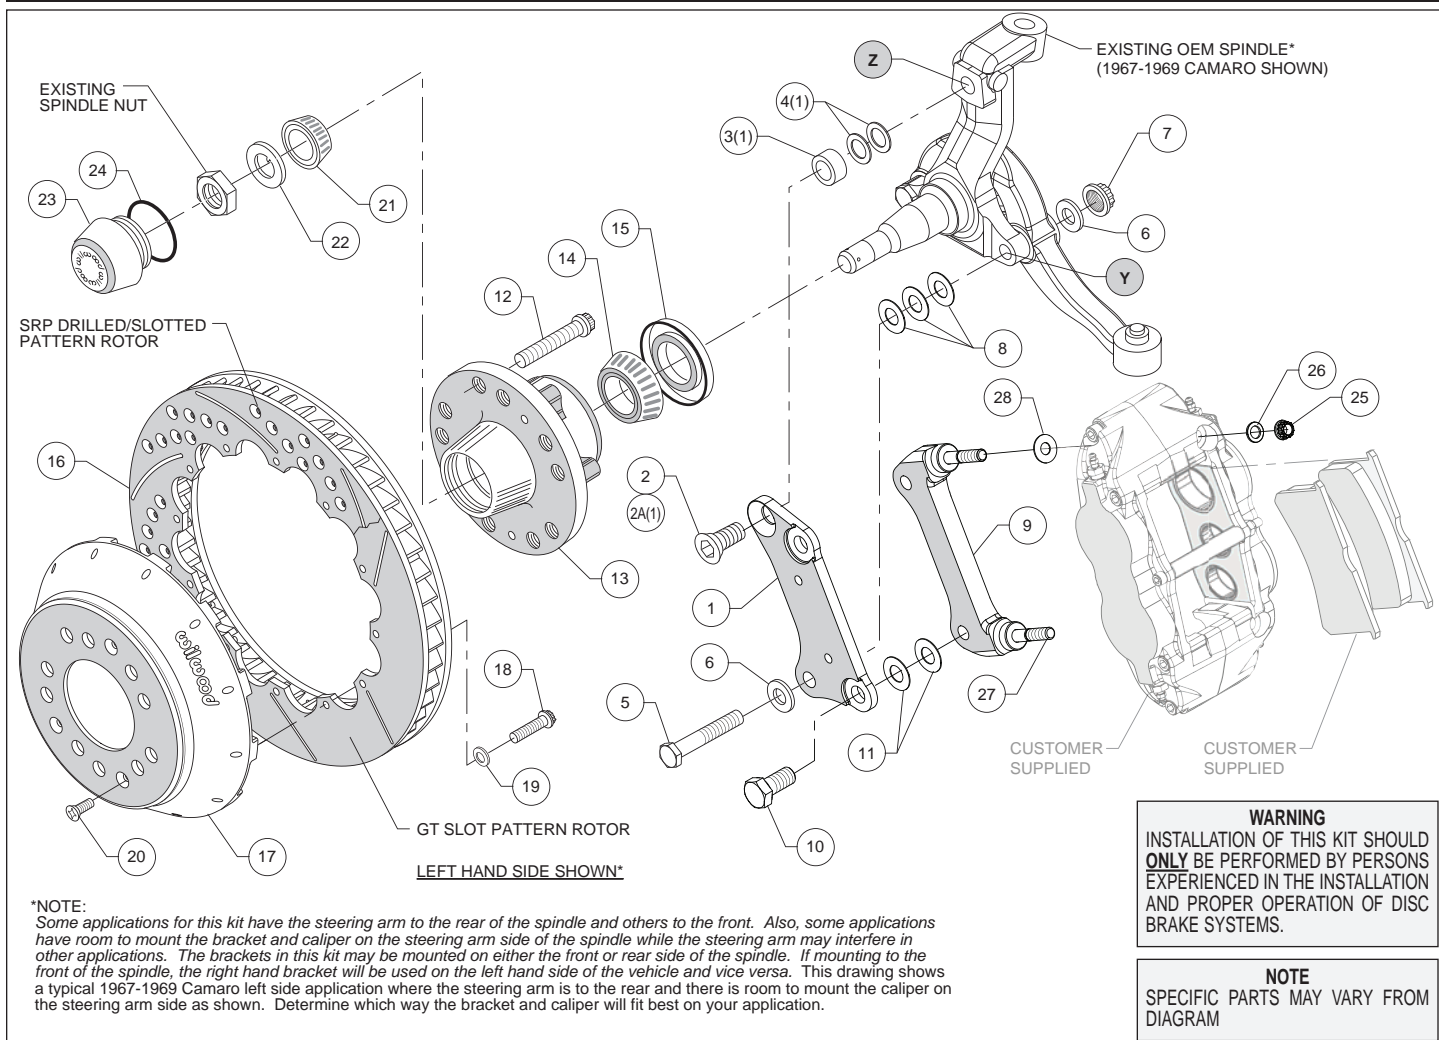
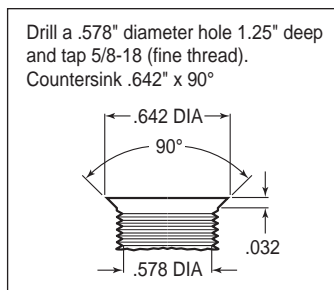
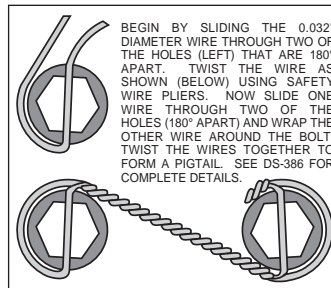

Figure 1. Typical Installation Configuration
Figure 3. Drill and Tap Detail
Figure 4. Safety Wire Diagram
Assembly Instructions (numbers in parenthesis refer to the parts list on the preceding page, and Figure 1):
•**NOTE:** Some applications for this kit have the steering arm to the rear of the spindle and others to the front. Also, some applications have room to mount the bracket and caliper on the steering arm side of the spindle while the steering arm may interfere in other applications. The brackets in this kit may be mounted on either the front or rear side of the spindle. If mounting to the front of the spindle, the right hand bracket will be used on the left hand side of the vehicle and vice versa. Figure 1 shows a typical 1967-1969 Camaro left side application where the steering arm is to the rear and there is room to mount the caliper on the steering arm side as shown. Determine which way the bracket and caliper will fit best on your application.
•**NOTE:** Some spindles in this year range may require the following modifications (reference Figure 1 and Figure 3): Top anchor pin hole (Z) must be drilled and tapped to the dimensions as outlined in Figure 3. The lower bolt hole (Y) in the spindle used to mount the new caliper bracket, and the mating steering arm hole, must be enlarged to .50" by drilling. It is recommended these modifications be performed by a qualified machinist.
•Install wheel studs (12) into the hub (13), Photo 1. Torque to 77 ft-lb. **NOTE:** There are two five lug patterns in the hub (5 x 4.50 and 5 x 4.75). Make sure of the correct hole pattern for the correct wheel application before installing studs into hub.
•Pack the large inner bearing cone (14) with high temperature disc brake bearing grease (available from your local auto parts store) and install into the backside of the hub (13).
•Install the grease seal (15) by pressing into the backside of the hub (13), Photo 2.
•Orient the rotor (16) and the hat (17) as shown in Figure 1 and Photo 3. Attach rotor to hat using bolts (18) and washers (19). Using an alternating sequence, apply red *Loctite*® 271 to the threads, and torque to 155 **in-lbs**. For an added measure of security, the bolts may be safety wired using standard 0.032 inch diameter stainless steel safety wire as shown in Figure 4. Please refer to Wilwood's data sheet DS-386 (available at www.wilwood.com/Pdf/DataSheets/ds386.pdf) for complete safety wire installation instructions.
•**Disc Brake Spindle Application Only:** Follow the instructions below, but instead use bolt (2A), spacer (3), and two .050" thick shims (4) in the upper bolt hole location, Figure 1.
•Orient the flat bracket (1) as shown in Figure 1 and Photo 4, and install using bottom bolt (5), washers (6), and nut (7), Figure 1. Initially place three .032" thick shims (8) between the bracket and spindle. Install the upper bolt (2 or 2A). Temporarily tighten bolts. **NOTE:** The bracket must fit squarely against the mounting surfaces on the spindle. Inspect for interference from casting irregularities, machining ridges, burrs, etc. Temporarily install the new hub, hat and rotor assembly. Check that the bracket is aligned parallel to the rotor, Photo 5. If not, adjust by adding or subtracting shims (8) on the lower bolt between the bracket and spindle, Figure 1. Once the bracket alignment is correct, remove the upper bolt (2 or 2A), apply red *Loctite*® 271 to the bolt threads, and torque to 120 ft-lb. Torque the lower lock nut to 65 ft-lb.
•The radial mount caliper bracket (9) should initially be installed with clean, dry threads on the mounting bolts. Orient the bracket as shown in Figure 1 and Photo 6, and install using bolts (10). Initially place two .029 thick shims (11) on each bolt between the two brackets, Figure 1. Temporarily tighten the mounting bolts. Later, after the caliper alignment has been checked, the mount bolts will be secured using red *Loctite*® 271.
•Pack the small outer bearing cone (21) with high temperature disc brake bearing grease and install into hub (13). Final install the hub assembly onto the spindle. Secure using spindle washer (22) and OEM spindle nut, Photo 7. Adjust bearings per OEM specifications. Install saved OEM nut lock (if any) and a new cotter pin (not included).
•Screw dust cap (23) into hub (13). Friction created by the o-ring (24) on the dust cap keeps it from unscrewing. **NOTE:** The O.D. of the existing OEM spindle washer may be larger than the I.D. of the dust cap not allowing it to seat against the hub face. Therefore, use the spindle washer (22) supplied with the kit instead of the OEM washer.
•Final install the rotor (16 and 17) assembly onto the hub (13), taking care to align the small countersunk holes in the hat with the small threaded holes in the hub. **NOTE:** The hat must fit flush against the hub face or excessive rotor run out may result. Install three flat head screws (20) through the small holes in the hat (17), Photo 8, and torque to 85 in-lb.
•**NOTE:** This kit will utilize distinct right and left hand calipers (customer supplied) that must be mounted in a specific direction, as described below. Lubricate the caliper mounting studs (27) with lightweight oil. Initially place one .035" thick shim (28) on each stud between the caliper and the bracket, as shown in Figure 1 and Photo 9. Mount the caliper onto the bracket (9) using lock nuts (25) and washers (26), Figure 1. Ensure that the caliper is mounted so the largest pistons are at the rotor exit end of the caliper, in relation to the direction of rotor rotation. Temporarily tighten the lock nuts. The rotor should be centered in the caliper, Photo 10. If not, adjust by adding or subtracting shims (11) between the flat bracket (1) and the caliper bracket (9). Always use the